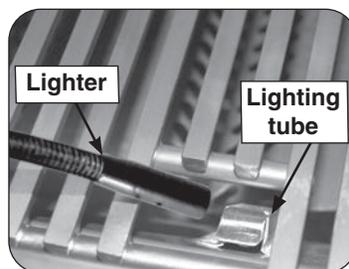
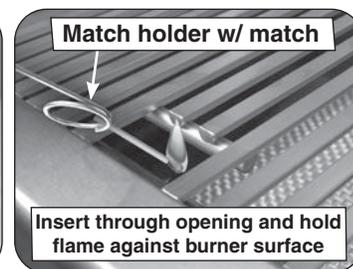

Fig. 29-2 Manual lighting via lighting tube
Fig. 29-3 Manual lighting via match holder
2. Insert either a burning long-barrel butane lighter or a burning long-stem match through the cooking grid opening to the top of the lighting tube (see Fig. 29-2). For backburners or infrared burners, hold the flame against the surface of the backburner/infrared burner. Grills equipped with an infrared burner include a wire extension match holder (attached to drip tray) to assist with manual lighting (see Fig. 29-3).
4. If the burner does not light within five (5) seconds of turning the control knob, **immediately depress the knob and turn the valve to OFF**. **WAIT FIVE (5) MINUTES** before repeating steps 2 through 4 of the MANUAL LIGHTING instructions.